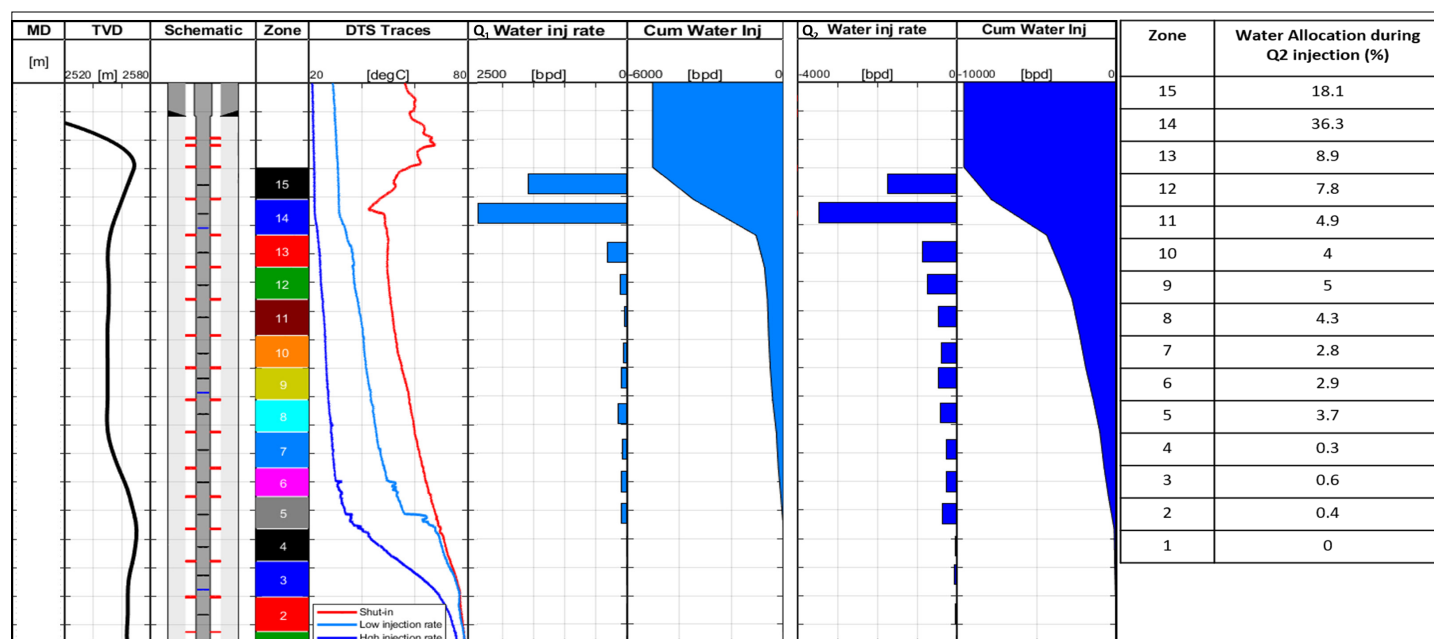

Figure 4 - Inflow allocation
- » As injection progresses at this rate, upward diagonal patterns originating from depths below zone 1 were also observed. These are annotated by black lines on the slow strain DAS map in Track 8. The Speed of sound analysis, shown in Figure 4 below, identified the cross-slow to be related to inconspicuous oil production from higher pressure zones in the toe section of the well.
Figure 4 shows the estimated inflow allocation profiles using Silixa's unique DAS & DTS injection Profiling Solution
The last SOS track in **Figure 4** shows no oil detection and the slow strain DAS shows the thermal plume reach the bottom last stage of the horizontal.